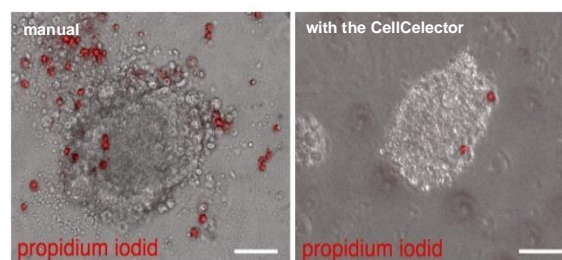

Fig. 19 Propidium Iodide staining for imaging dead cells after manual (left) and automatic transfer with the **CellCelector** (right).
Propidium iodide (PI) incorporation (Fig. 19) was used to assess cell survival of manually (left) and automatically (right) picked hESCs after transfer.
Phase contrast images of those hESCs were merged with the corresponding fluorescent images of PI staining (scale bar 50 µm). The images (Fig. 19) show the high sensitivity of the transfer method using the **CellCelector** due to the usage of more precise tools for picking.